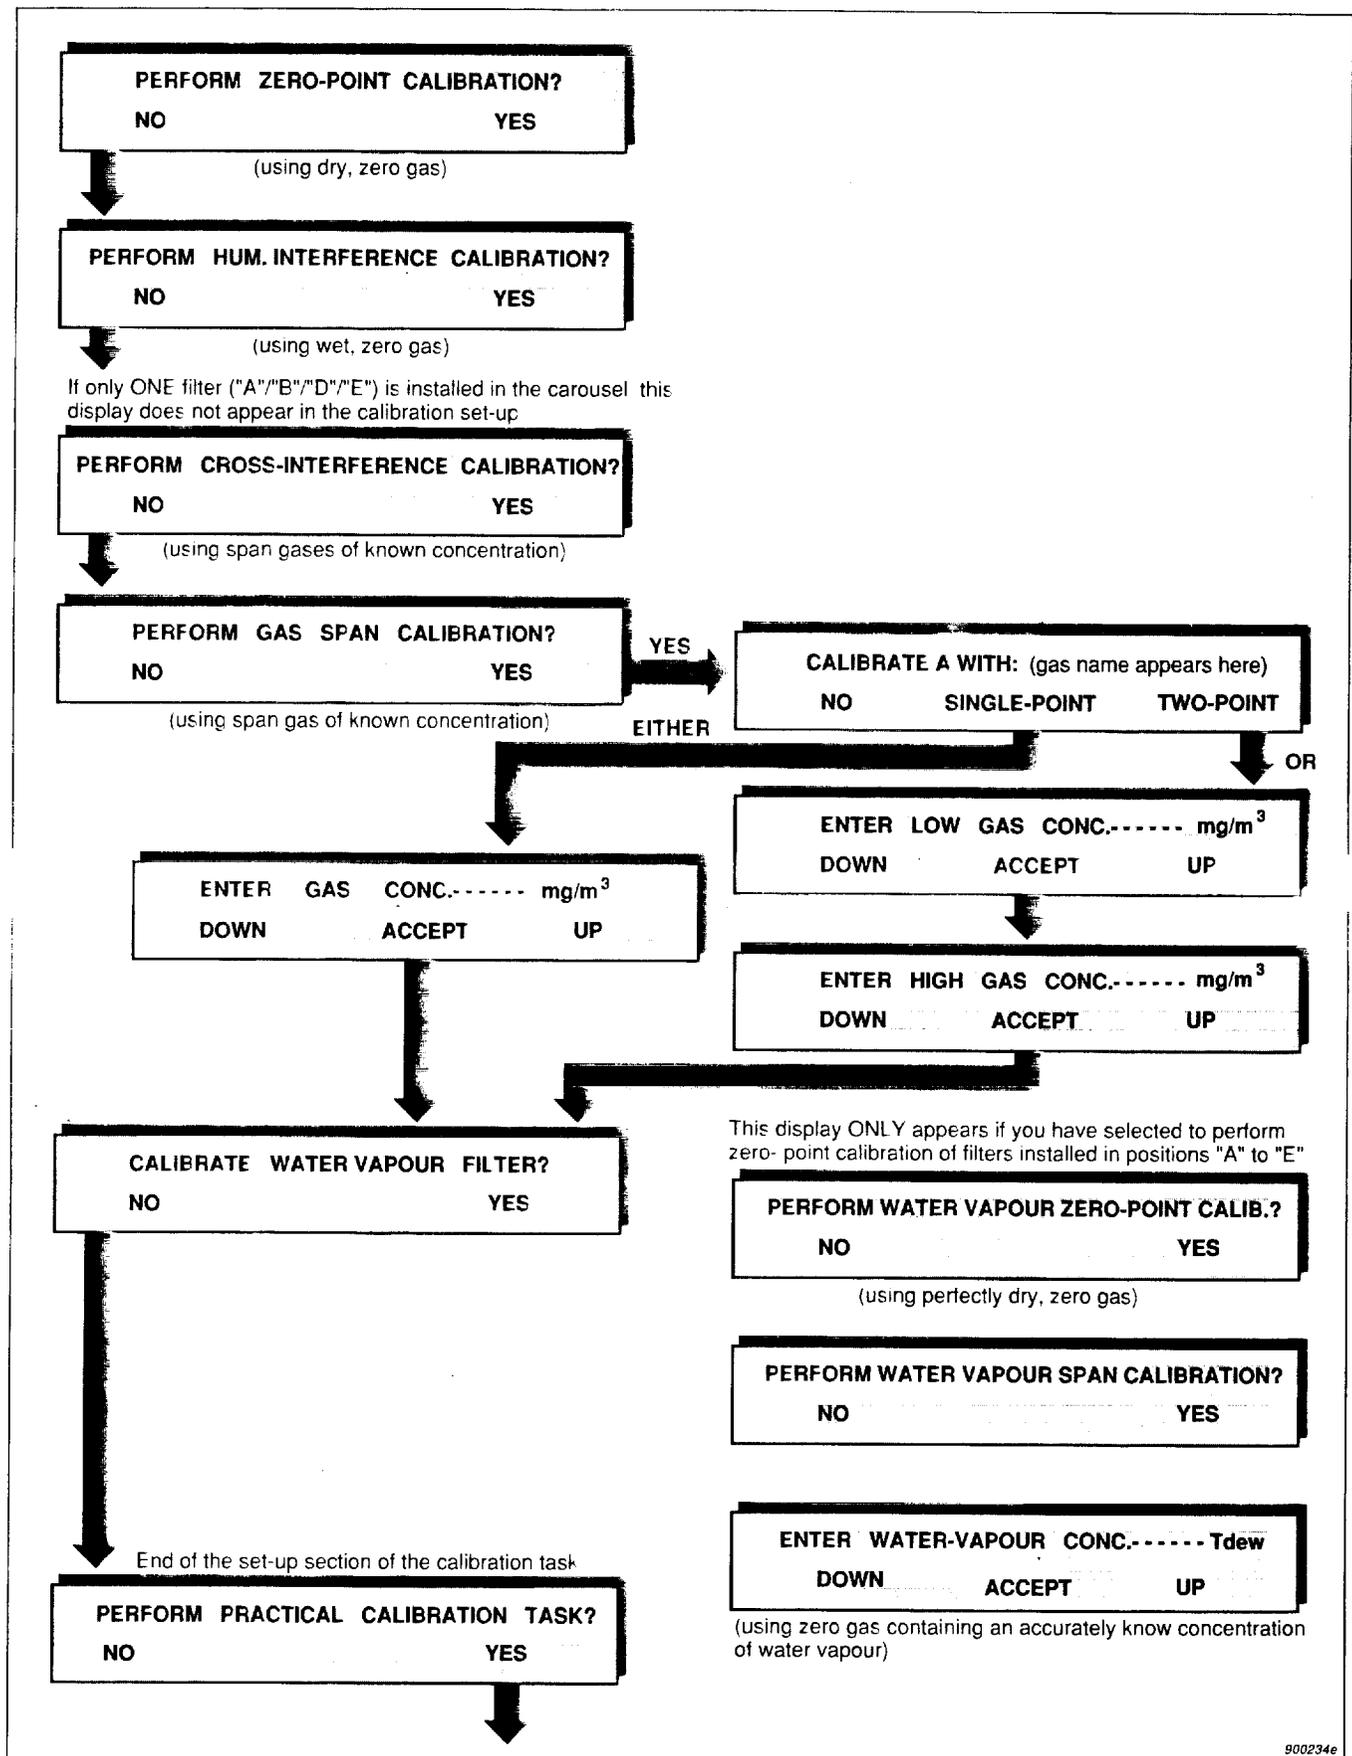

Fig. 16.14. Schematic diagram showing how to set-up a span calibration task (follow the arrows)
- (a) If you only wish to span calibrate filters, follow the set-up of a span calibration task by following the black arrows in the schematic diagram shown in Fig. 16.14.